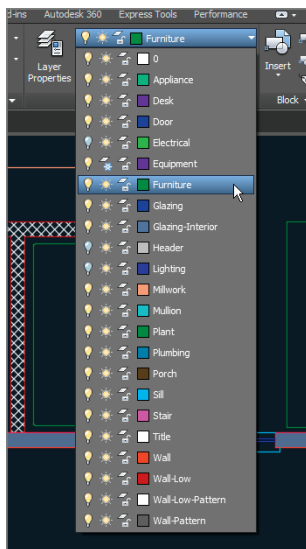

FIGURE 6.10 Changing layer assignment with the Layer drop-down menu
3. Open the Layer drop-down menu in Quick Properties, and click Furniture (see Figure 6.10) to change the layer assignment of the selected items. Press Esc to deselect.